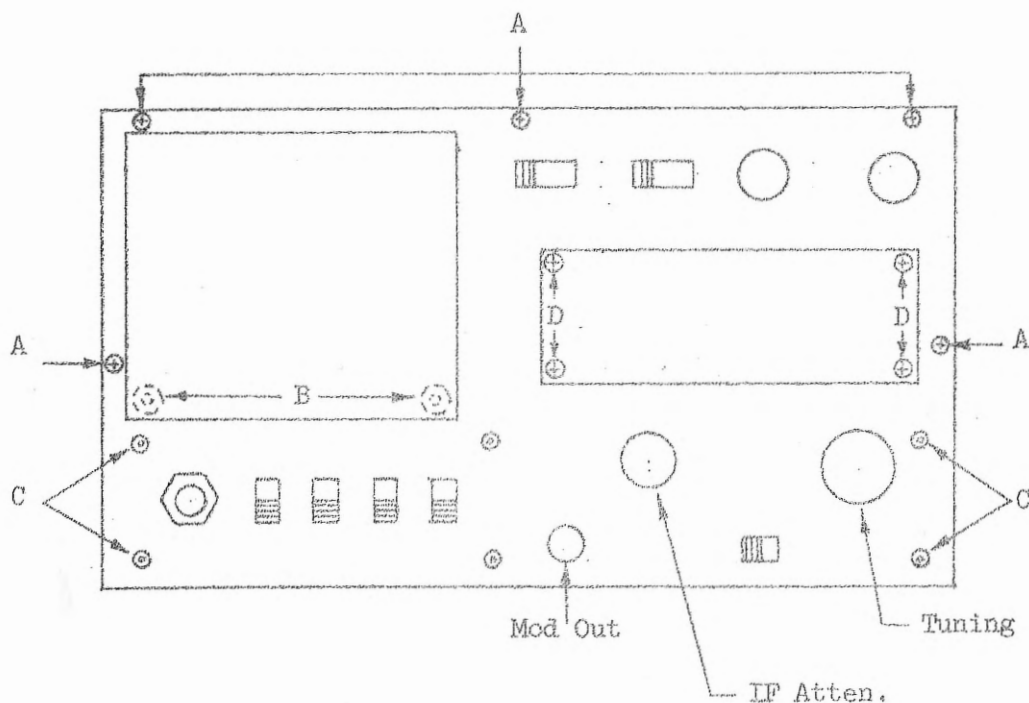

FIG. 1
- b) Remove five Phillips head screws from face of unit, (marked "A" fig 1).
- a) Remove two nuts and washers from rear of lower meter mounting screws, (marked "B" fig. 1).
- b) Remove four Allen head screws from face of panel, (marked "C" fig. 1 ).
- b) Remove plastic escutcheon (window) from panel, (marked "D" fig. 1).